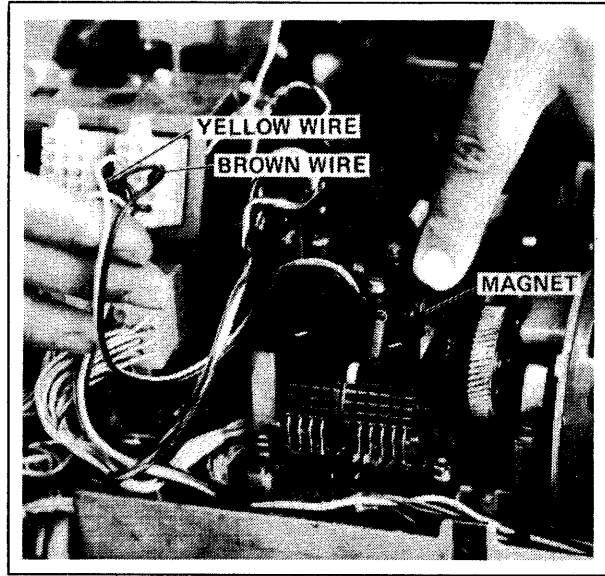

Figure E-7. Distributor Trip Magnet
- b. Disconnect brown wire shown in figure E-7 from plastic connector. Connect this brown wire to terminal I2 on mode switch. (Brown wire will have to be extended.)